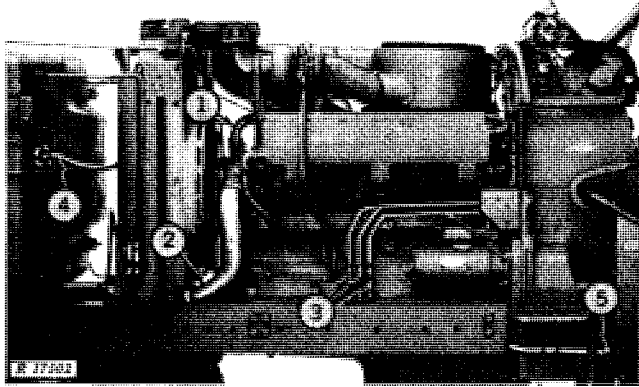

Fig. 21-Left-Hand Side of Tractor
2. Disconnect lower water hose (Fig. 21).